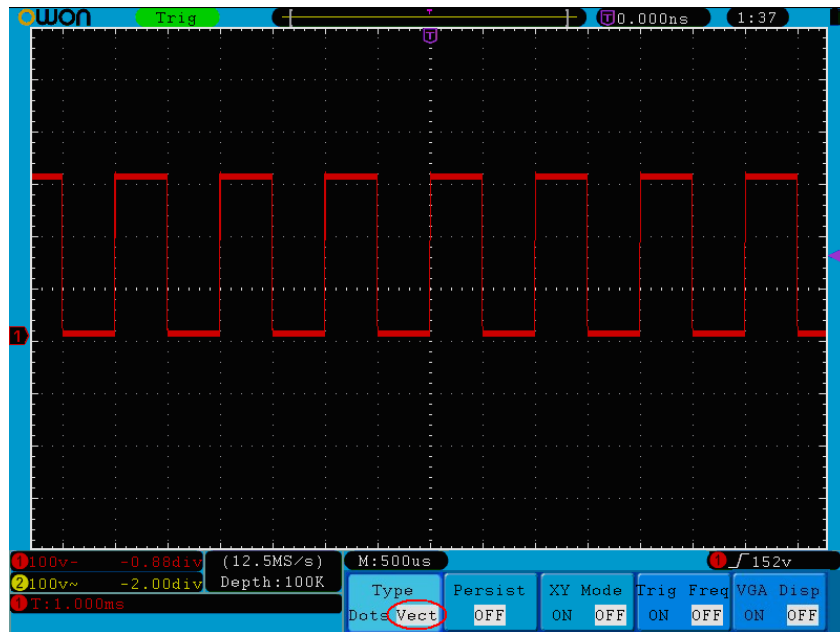
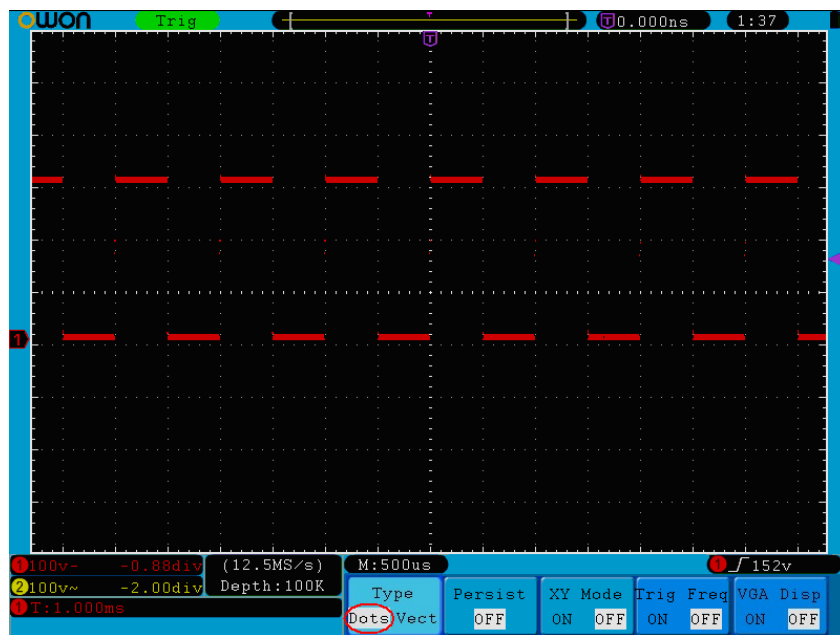

Figure 5-31 Display in the Vector Form
Figure 5-32 Display in Dots form
**Vect** and **Dots** types. The differences between the two display types can be observed through the comparison between *Figure 5-31* and *Figure 5-32*.